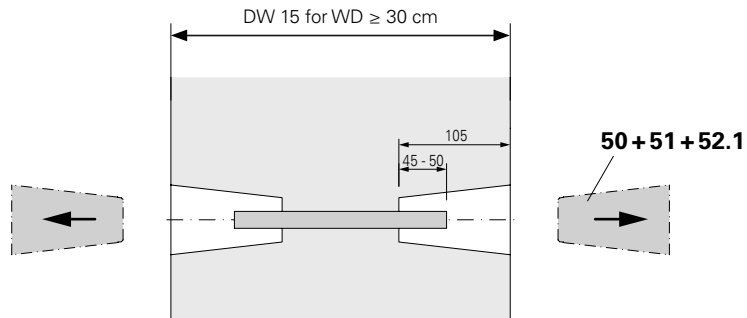
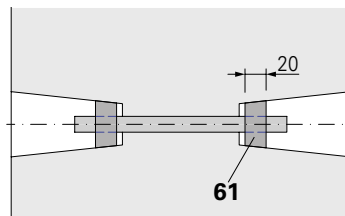
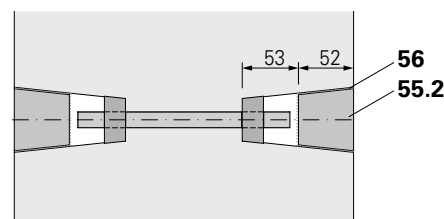

Fig. 11
Fig. 12
Fig. 14
1. Remove tie cone (51) with DK Cone Spanner (52.1). (Fig. 11)
2. Lift off and remove the sealing cover (50). (not shown)
3. Insert the lead cone (61) into the recess. (Fig. 12)
4. Tap in the lead cone with steel tube (59) and hammer (60).
6. Repeat points 1 to 5 on the other side of the wall. (Fig. 11 to Fig. 14)